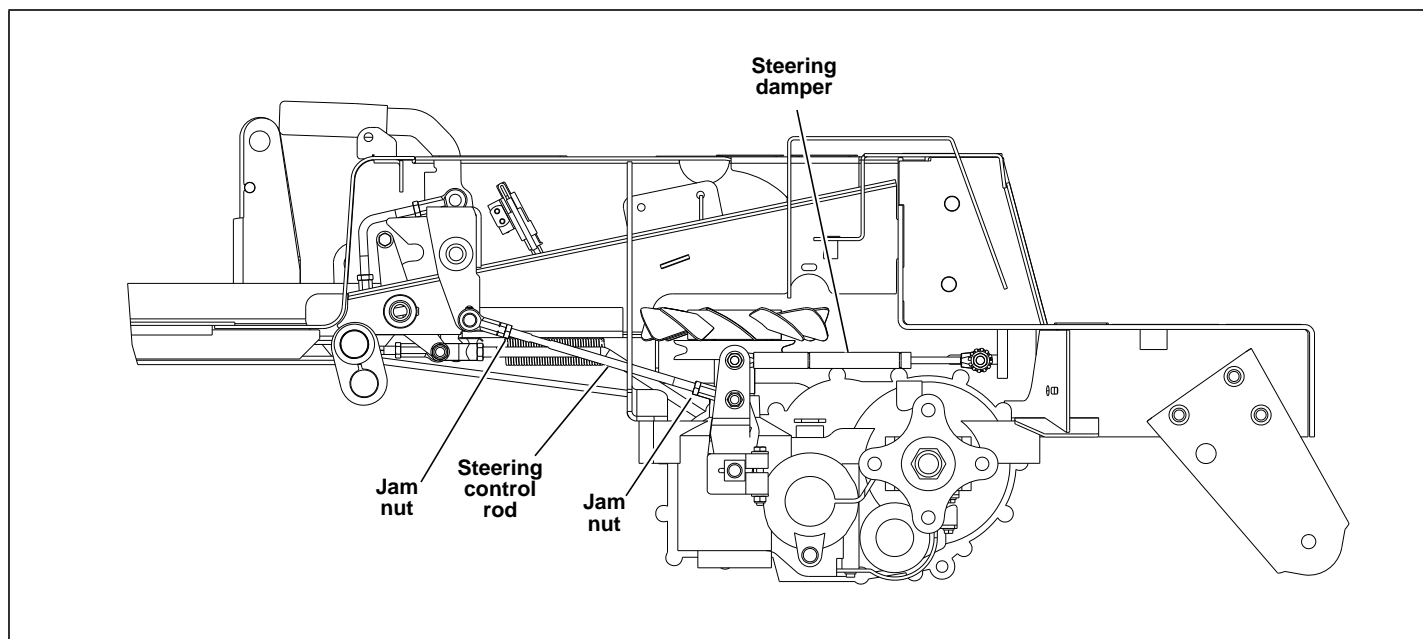
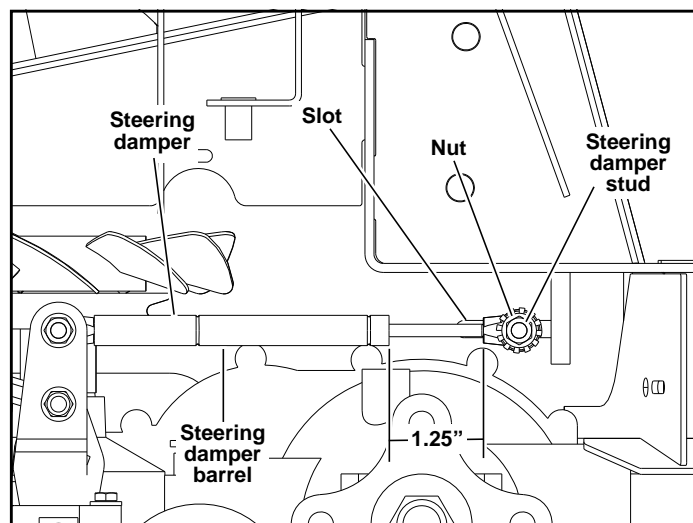

Figure 4-4
Figure 4-5
5. Loosen the jam nuts on each end of the steering control rod assemblies. Figure 4-4
The dampers must be allowed to slide in the slots in the mower frame. Figure 4-5
11. Beginning with the right side of the mower, adjust the steering control rod so that the right side wheel starts rotating forward while holding the PowerBar handle in the neutral position. Now, adjust the steering rod back the opposite direction to the point when the wheel stops rotating. From that point, turn the steering rod an additional ½ turn in the same direction. This ensures that the steering rod is adjusted so that the transmission control arm is centered in the neutral band of the transmission. Figure 4-4
14. Tighten the jam nuts on the steering control rod. Figure 4-4
The steering damper may or may not be adjustable. If the steering damper's rear ball stud goes through a **slot** in the mower frame then it is **adjustable**. If the steering damper's rear ball stud goes through a **hole** in the mower frame then the damper is **not adjustable**. Figure 4-4 & Figure 4-5
3. Loosen the steering damper's rear ball stud. Figure 4-5
4. Pull the damper spring housing, until there is a distance of 1.25" between the end of the damper and the barrel of the damper. Figure 4-5
5. Tighten the nut on the steering damper's rear ball stud. Figure 4-5